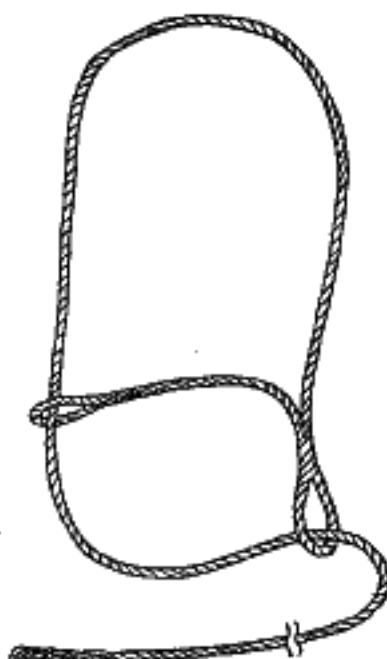

FIG. 353.—An adjustable halter.
**412.** An adjustable halter, illustrated in Fig. 353, involves making only a loop splice, an eye splice, and an end splice. It is a good plan to make both the loop and the eye quite small.